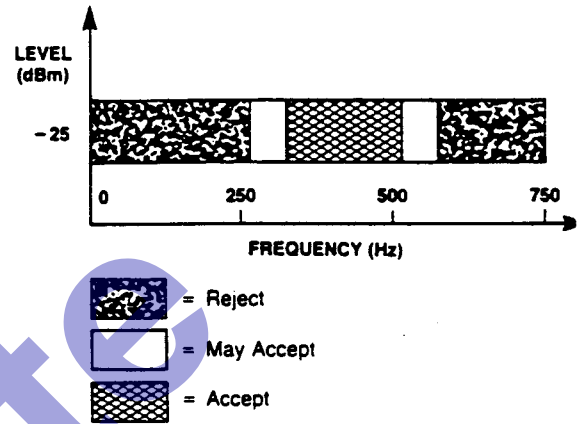

Figure 6. Call Progress Response
A Call Progress (CP) Mode can be selected allowing the detection of various tones which identify the progress of a telephone call on the network. The Call Progress tone input and DTMF input are common, however, call progress tones can only be detected when the CP Mode has been selected. DTMF signals cannot be detected if the CP Mode has been selected (see Table 5). Figure 6 indicates the useful detect bandwidth of the Call Progress filter. Frequencies presented to the input (IN+ and IN-) which are within the 'accept' bandwidth limits of the filter are hard-limited by a high-gain comparator with the IRQ/CP pin serving as the output. The square wave output obtained from the schmitt trigger can be analyzed by a microprocessor or counter arrangement to determine the nature of the Call Progress tone being detected. Frequencies which are in the 'reject' area will not be detected, and consequently there will be no activity on IRQ/CP as a result of these frequencies.